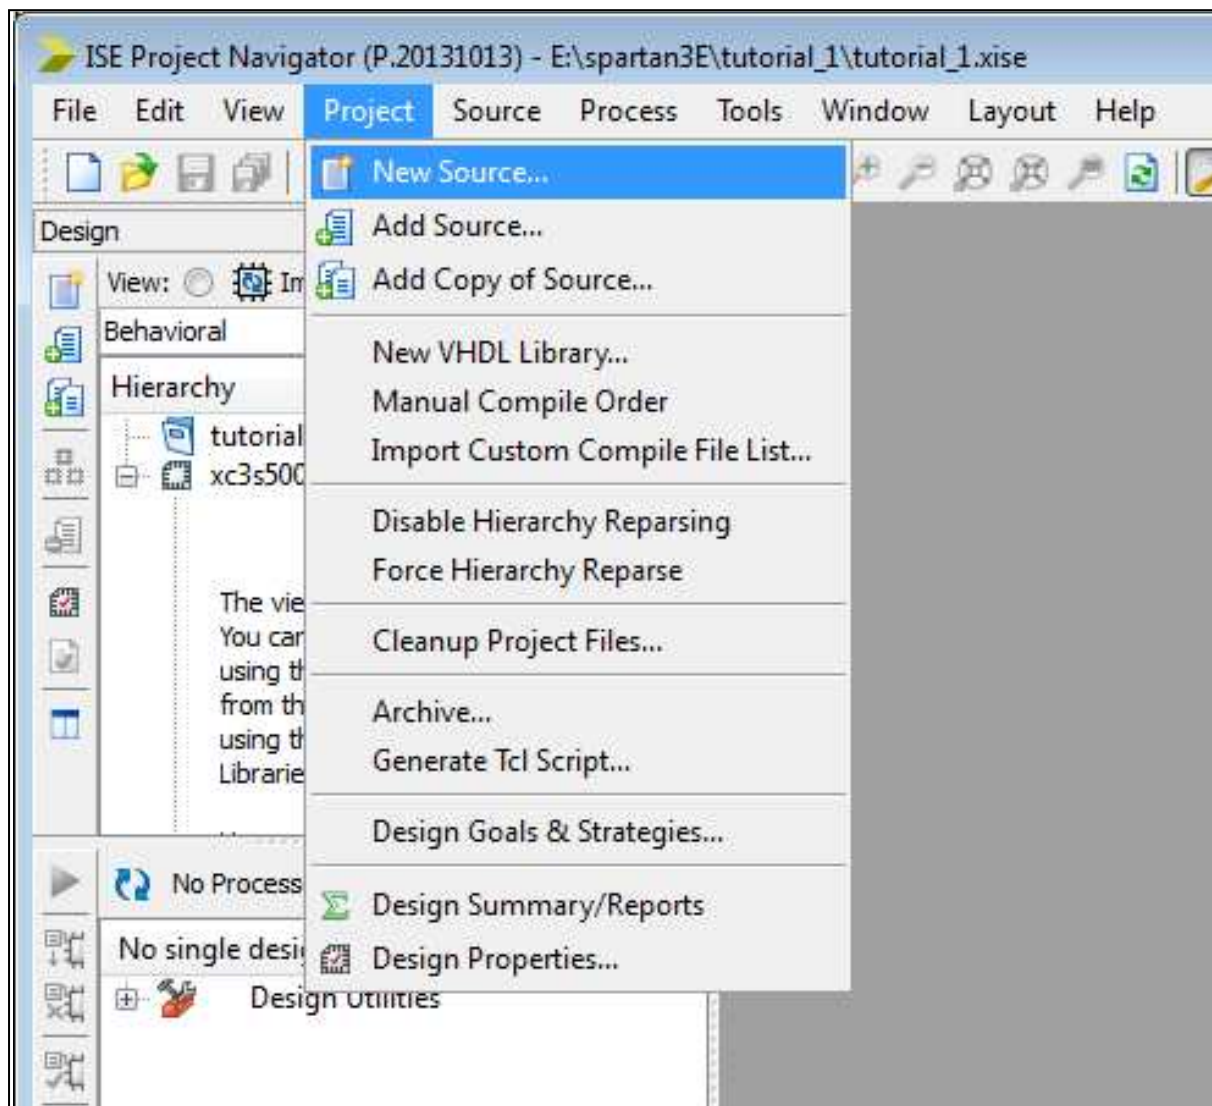

Figure 3.6: Adding a new source file to the project.
1. Select **Project**→**New Source** as shown in Figure 3.6. The **New Source Wizard** will appear.